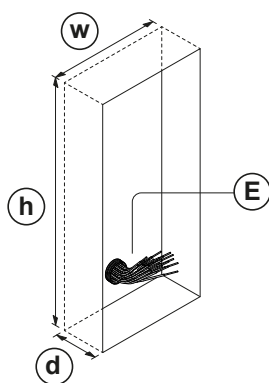

Fig. 58
2. Using the flush box (C) and the hole dimensions (**w=120mm x h=263.2mm x d=46mm**), as shown in **Fig.58**, use appropriate tools to cut out the recommended hole size in the wall (where required it may be necessary to wear the appropriate clothing, e.g. protective gloves and eye protection, when doing this). Remember to allow room for the connecting cables (E) (**Fig.58**);